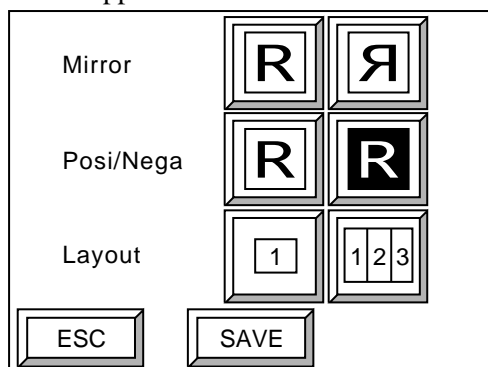

Fig. 5-37 Exposure condition setting screen
1. Select **[Set exposure mode]** in the offline screen and press **[OK]**. The ejection method selection screen appears. (If an online processor is not connected, the exposure condition setting screen (Fig. 5-37) will appear instead of the ejection method selection screen.)